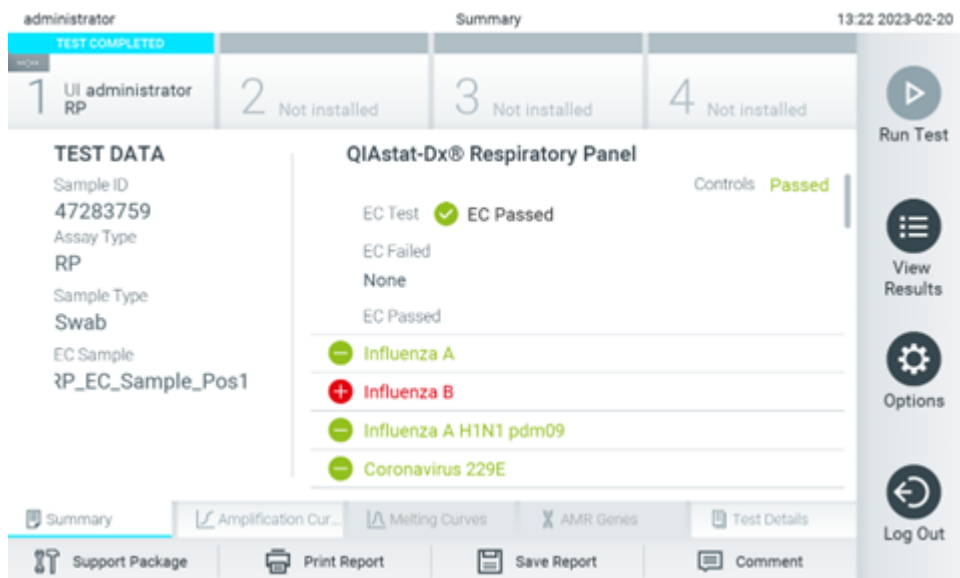

Figure 100. EC Results Summary screen.
- After the QIAstat-Dx assay cartridge has been ejected, the results Summary screen will appear (Figure 100). Refer to Section 8.3 for further details.